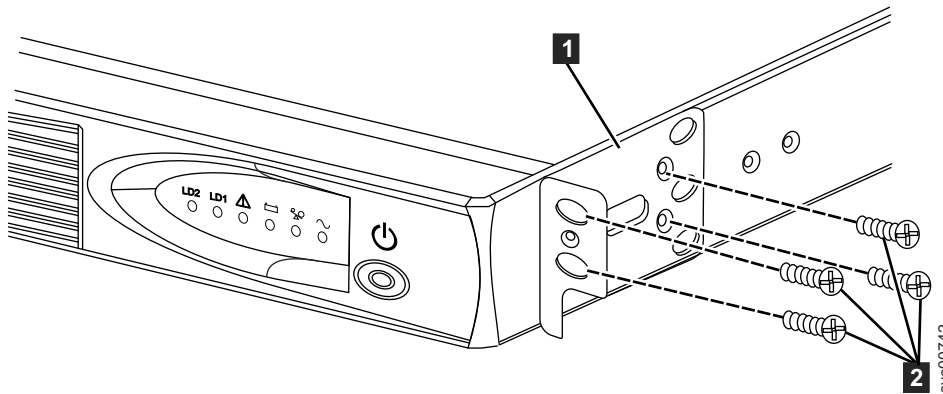

Figure 342. Installing the UPS mounting brackets for the 2145 UPS-1U
2. On each side of the 2145 UPS-1U, attach the long end of a mounting bracket to the 2145 UPS-1U using four of the supplied M3 × 6 screws (**2** in Figure 342).